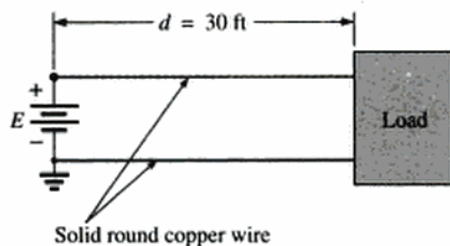

FIG. 3.46
17. a. For the system in Fig. 3.46, the resistance of each line cannot exceed $6\ \text{m}\Omega$, and the maximum current drawn by the load is 110 A. What minimum size gage wire should be used?